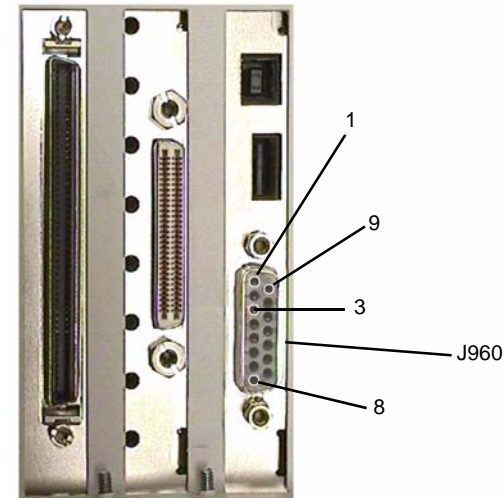

Figure 1 FAI J960
Connect a jumper wire between pins 1 and 3 on J960 (Figure 1). **The message Ready is displayed.**
- Verify that the phone line connection to FAX (on Controller) is secure (**Figure 1**). If a single FAX phone line is used by customer, check that it is connected to the socket that is below the tape. This is Line 1.